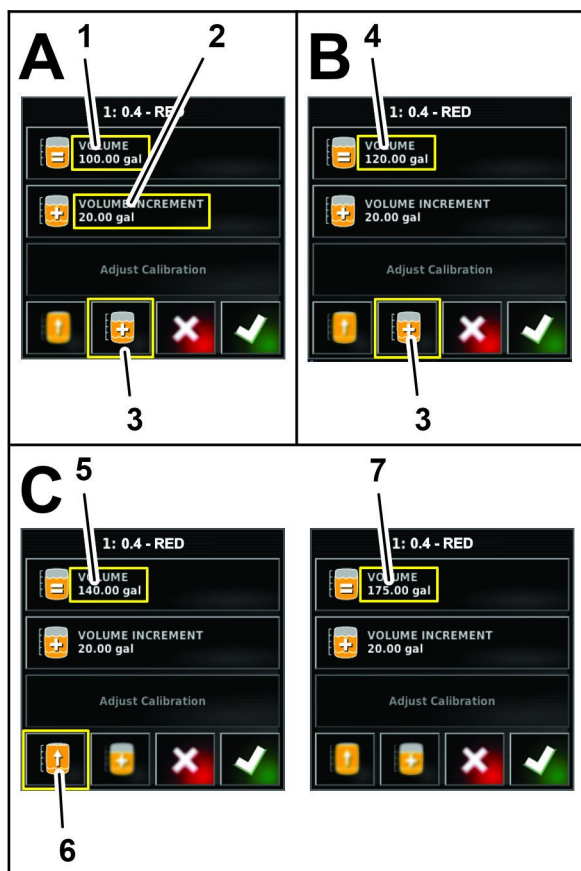

Figure 127
4. If you are incrementally adding chemicals to water, press the VOLUME INCREMENTS icon (Figure 127).
5. Use the numeric pad of the display to enter increment of the volume of product (such as chemicals to water) that you will add product to the tank, and press the confirm icon (Figure 127).
6. If you are incrementally adding chemicals to water, add the product into the tank and press the INCREMENT AMOUNT OF PRODUCT icon (Figure 127).